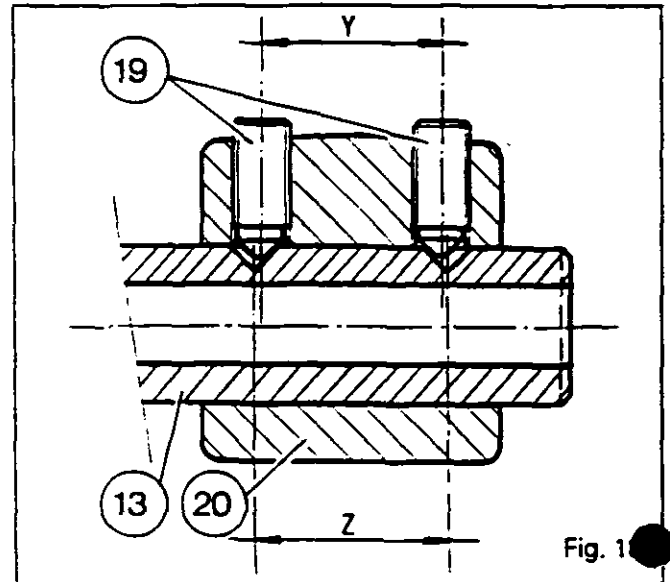
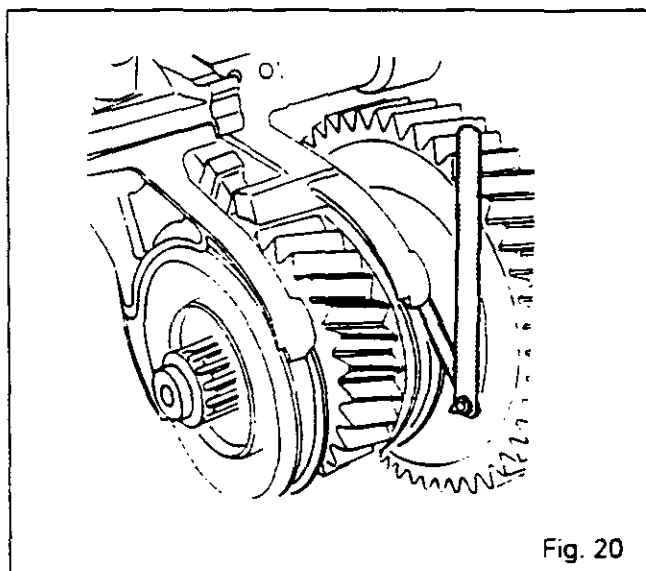

Fig. 19
Fig. 21
76. Hold the synchromesh against the high range gear (29). (See Fig. 19).
77. Adjust the position of the fork (20) by acting on the two adjusting screws (19) after cleaning them with solvent and coating them with Loctite 221, in order to obtain a play of **J1 = 0.3 mm** between the rear face of the pad and the synchromesh slide rod (Figures 19 and 20).
78. Set the control piston (13) and the synchromesh to the low range (Tortoise).
79. Check that there is a play of **J2 = 0.3 min.** (value determined by setting J1) between the pad and the synchromesh slide rod, with the slide rod resting against the low range gear (36) (Fig. 21). Tighten the screws to a torque of 35 Nm without modifying the setting.
**Note: In the Tortoise position, play J1 must be increased if face X of the pad on fork (20) is bearing against the synchromesh slide rod (Fig. 21).**
81. Slightly loosen the castellated nut (21). Apply a moderate coat of Loctite 270 on the thread of cone (24).
85. Apply Loctite 648 on the tightening face of the slider (18) and Loctite 241 on bolt (17). Fit the washer and the bolt.
86. Adjust plays J5 and J6 (min. = 0.3 mm) evenly between the slider and the lock in the Hare and Tortoise positions (Figures 19 to 21 and 24).